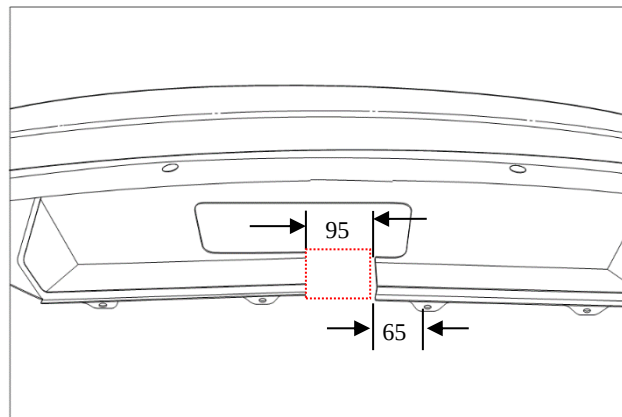

Figure 1
13. Mark and cut an area 95mm wide and 65mm away from the bumper tab hole. (Figure 1)